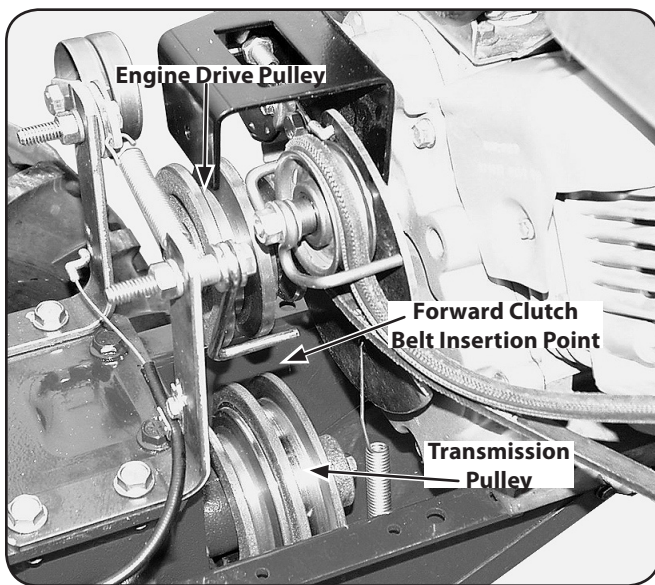

Figure 7-5
8. From the front of the tiller, insert the forward clutch belt in between the bottom of the engine drive pulley and the top of the transmission pulley. See Fig. 7-5.
11. Reinstall the reverse clutch belt. Insert the bottom of the belt into the frame, then pull down on the belt and roll it onto the large, forward-most groove of the transmission pulley. See Fig. 7-5.